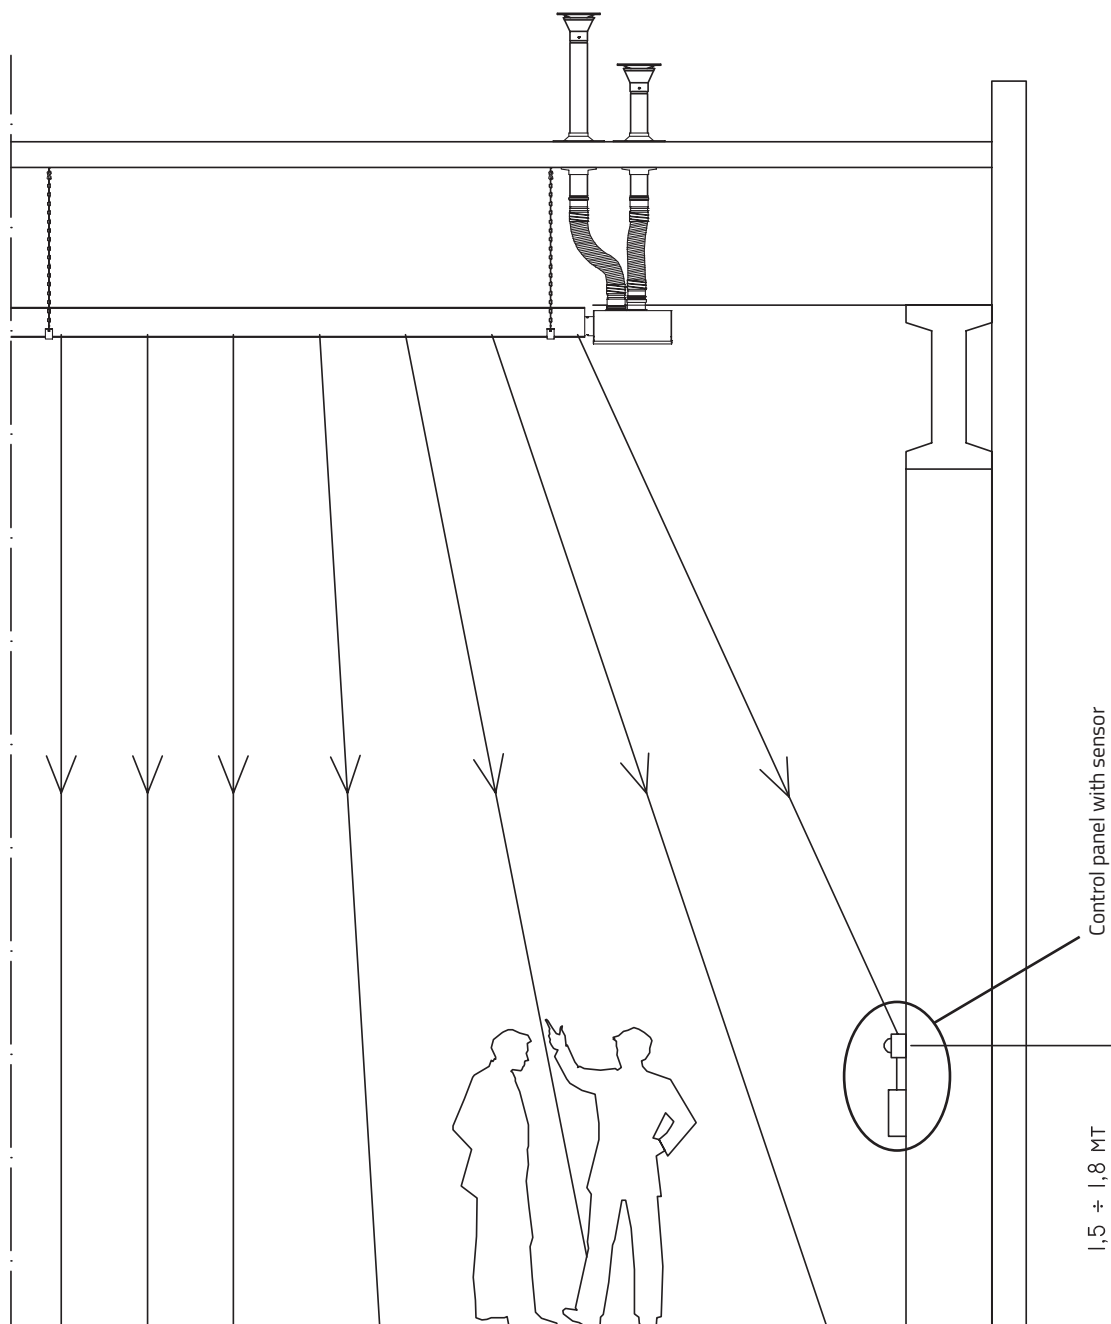

Fig. 8.1 Location of the temperature sensor
- Mount the thermostat at a height of approximately 1.50–1.80 m above the floor in a location where it is within the radiant heater's heat zone; only in this way will the sensor be able to monitor the temperature generated by the radiant heater (see Fig. 8.1).